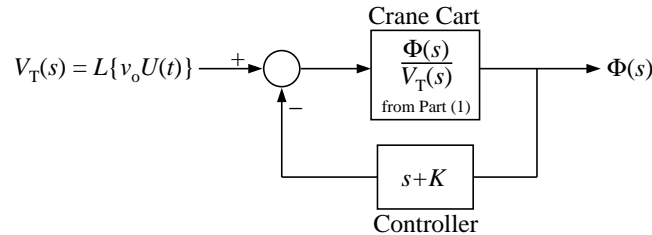

Figure 2: Control Configuration for the Crane.
- (2) Assume that the cart is driven at a constant velocity, $v_0 = 10$ m/s. Derive and sketch the angle of sway of the rope as the cart moves. (5 marks)
- (3) Under the condition in part (2) above, show that the load will sway with a frequency of $\omega_0 = \sqrt{\frac{g}{L}}$ rad/s. (2 marks)
- (4) Find the transfer function, $\frac{V_T(s)}{F_T(s)}$, from the applied force to the cart's velocity where $V_T(s) = \mathcal{L}\{v_T(t)\}$ and $F_T(s) = \mathcal{L}\{f_T(t)\}$ are the Laplace transforms of the cart's velocity, $v_T(t)$ and the force, $f(t)$ respectively. (3 marks)
- (5) Analyze what happens to the velocity of the cart if a constant force is applied to it. Sketch the trajectory of the velocity. You may assume the constant force to be 1 unit. (5 marks)
- (6) Suppose a crane controller is designed as shown in Figure 2, to automatically modulate the cart velocity in a manner which ensures that the load does not swing wildly when the cart is driven at the constant velocity, v_0 i.e. $V_T(s) = \mathcal{L}\{v_0 U(t)\}$ where $U(t)$ is the unit step function. K is the controller parameter to be tuned in order to achieve the control objective.
- Derive the final transfer function $\frac{\Phi(s)}{V_T(s)}$, of the crane cart plus controller shown in Figure 2.